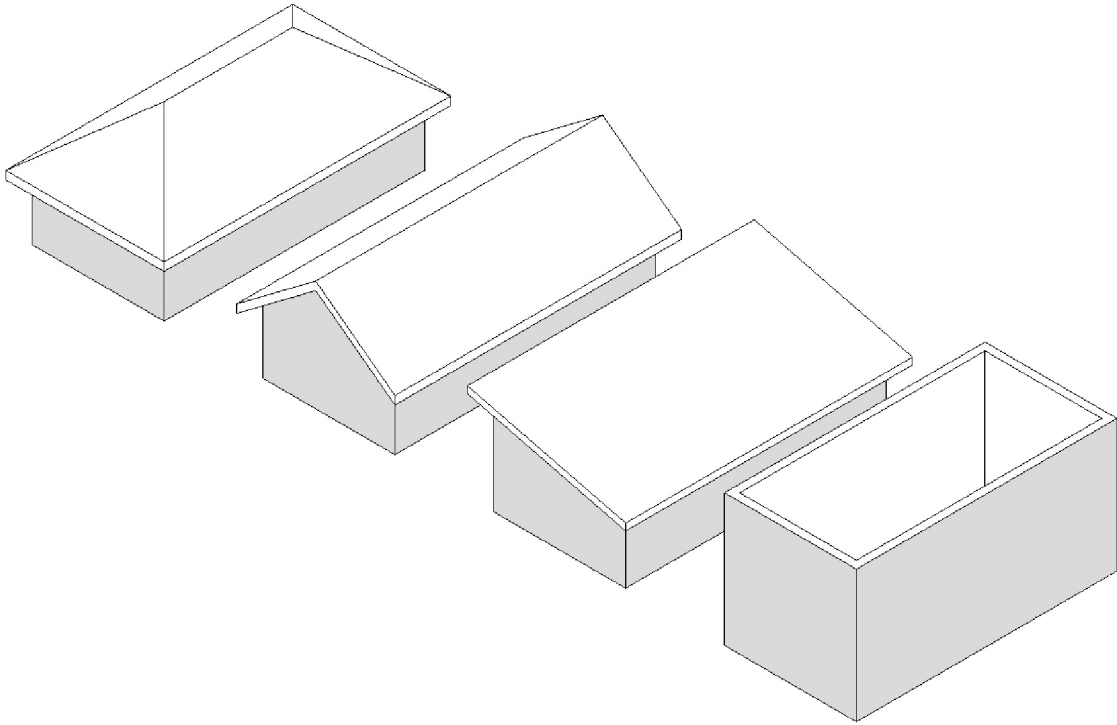

FIGURE 7-1.11 Default 3D view – shed roof
38. Switch to the *Default 3D* view (Figure 7-1.11).